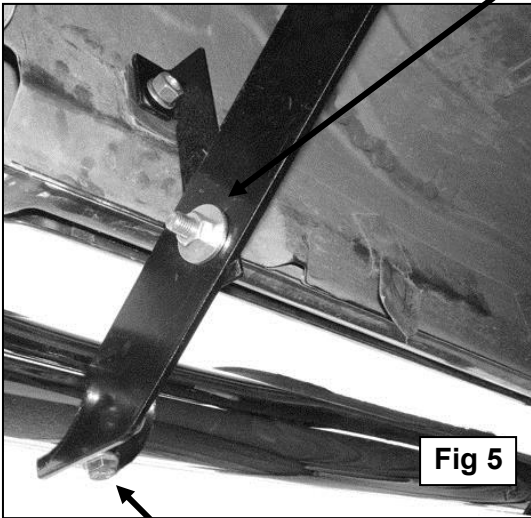

Fig 5
8. With assistance, carefully position the driver Sidebar onto the Mounting Brackets. Partially attach the Sidebar to the front and rear Mounting Brackets with the included (4) 8mm x 25mm Hex Head Bolts, (4) 8mm Lock Washers, and (4) 8mm Flat Washers, (**Figure 5**). Do not tighten hardware at this time.